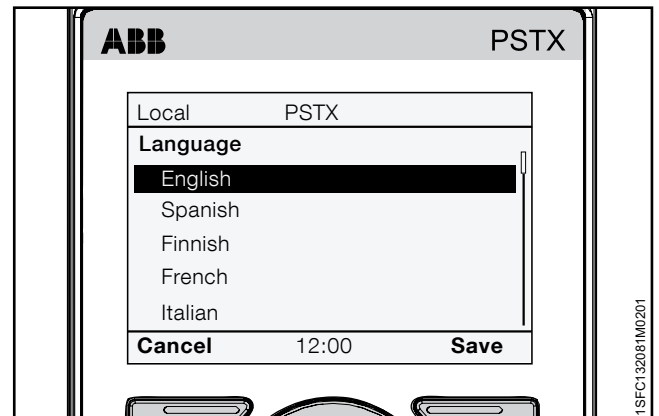

Figure 6.36
5. Use  and  to select language. See **Figure 6.36**.